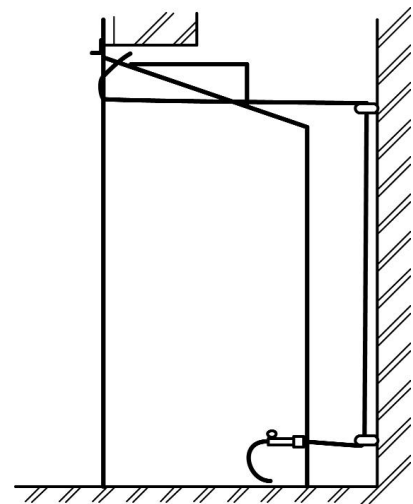

Figure 17. Cable route
6. Thread the cables through the eyescrews. Return the cables through the holes near the bottom of the hotbox back panel (See figure 17) (**For precast or clay block flue systems return the cables through the slotted holes in the side of the hotbox**).